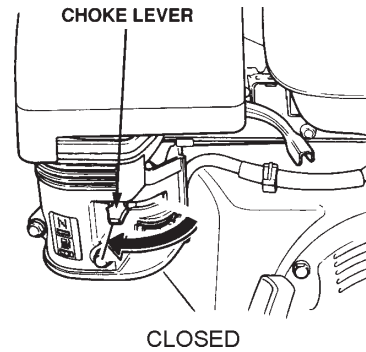

Figure 11. Engine Choke Lever (CLOSED)
3. Place the **choke lever** (Figure 11) in the "CLOSED" position if starting a **cold** engine.